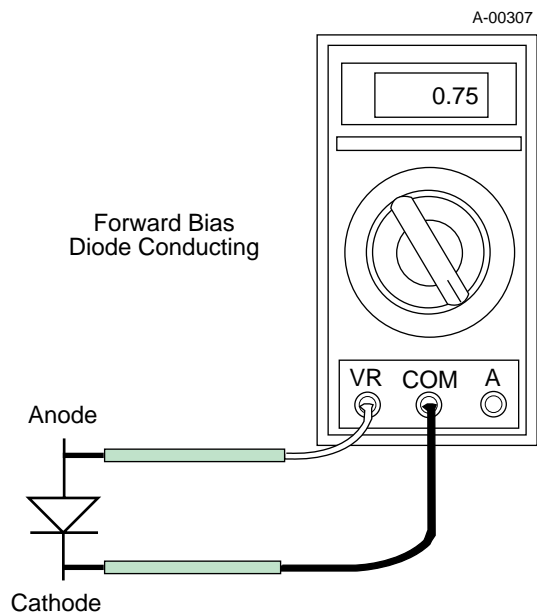

Figure 4-1 Testing Diode Forward Bias
5. Connect the volt/ohm meter positive lead to the anode (+) of the diode and the negative lead to the cathode (-) of the diode for forward bias testing (refer to Figure 4-1). A properly functioning diode will conduct in the forward bias direction and indicate between 0.3 to 0.9 volts.